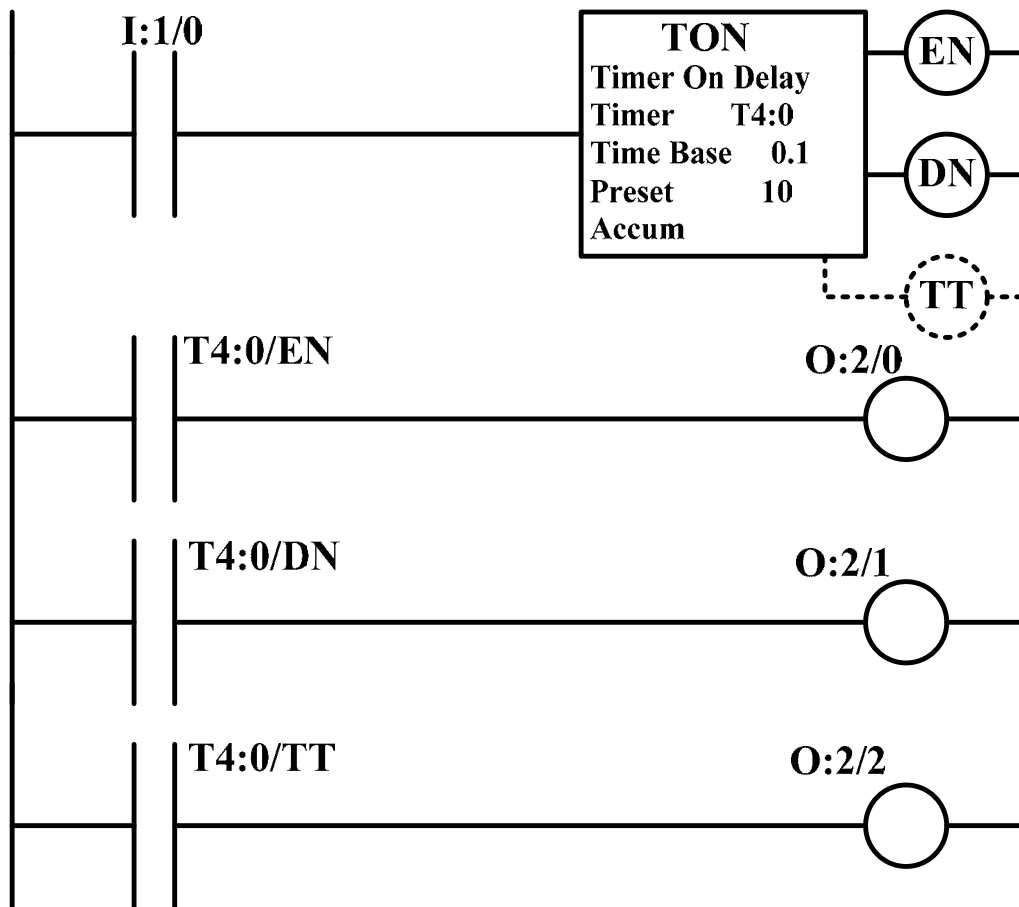

Figure 3.9 A Timer Example
The easiest way to understand a timer is to build a ladder logic program that uses one. Let's start by erasing all that we've done so far and loading the I/O simulator again. Then build the ladder logic program shown in Figure 3.9. To do that, first find the Timer/Counter tab to the right of the user tab that we have been using. Click on it and drag a **On Delay Timer** (TON) to the first line in your new program. Notice that the screen shows EN and DN outputs. This stands for **ENABLE** and **DONE**. There is also a third output that is not shown called **TIMER TIMING** (TT). These outputs can be
Now let's see what happens to **EN, DN, and TT** when the timer is activated. The timer starts timing when the input to it is made logically true. In our example, that happens when the switch represented by XIC contact I:1/0 is closed. After copying the example from Figure 3.9, download the program, and go to Run mode. Make I:1/0 a normally open pushbutton switch. Then hold it closed and watch the timer. The Accumulator will count from 0 to 10. Enable (EN) will be on as long as you hold the pushbutton switch closed. Done (DN) will turn on when the accumulator equals the preset. This is really your **time delay on operate**. Notice here that the enable output looks just like a relay or Output Energize. The **Timer Timing** output turns on whenever the accumulator is changing value. The TT output is very useful in some applications. This output was not usually available when timers were big, expensive, inaccurate, and inflexible. If you want to make the preset bigger to help you watch the timer operate, try 30 or 50 for the Preset.